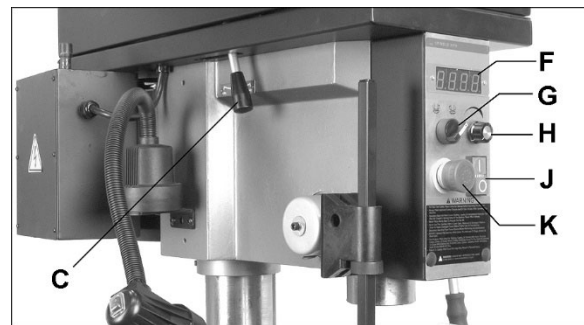

Figure 8-2: head left side (JDPE-20EVSC-PDF)
1. Press E-stop button (K, Figure 8-2).
Move shift lever (C, Figure 8-2) while spindle is turning to select high or low speed range.